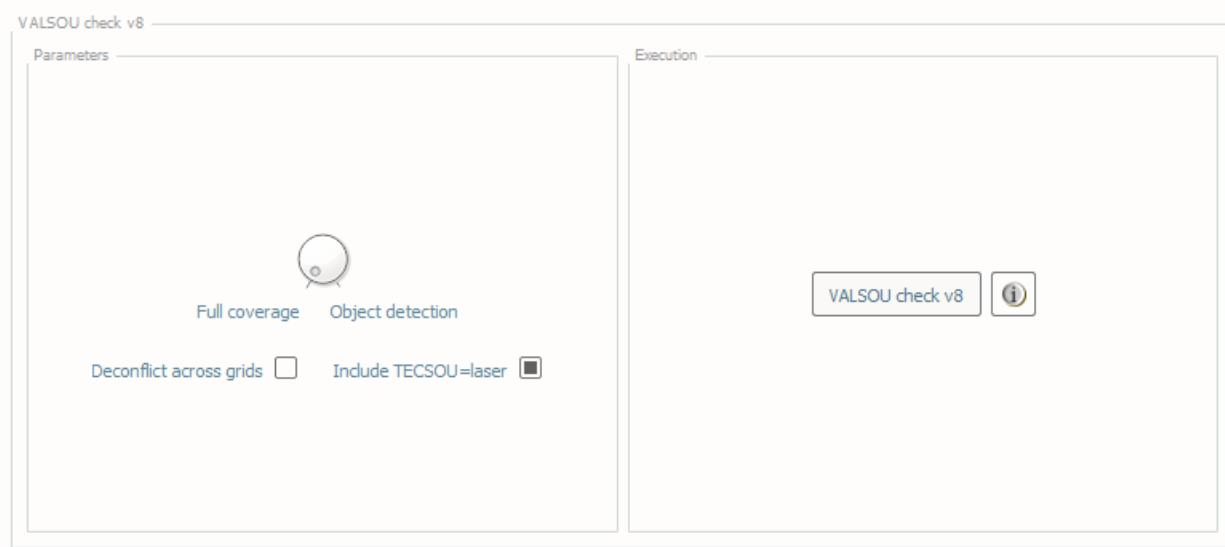

Fig. 2.57: The **VALSOU check** tab.
- Select the **VALSOU Checks** tab (Fig. 2.57) on the bottom of the QC Tools interface.